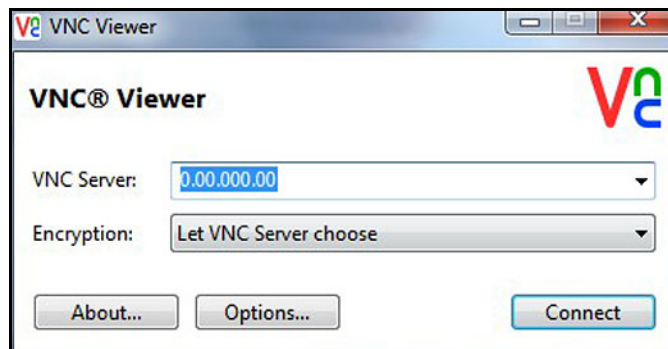

Figure 74: VNC Viewer Screen
5. From the **PC**, go to the **RealVNC** web site and download the *VNC Viewer*. Then, launch the *VNC Viewer* and enter the recorded moisture.IQ *IP Address* when prompted (see Figure 74 below). Click the **Connect** button.